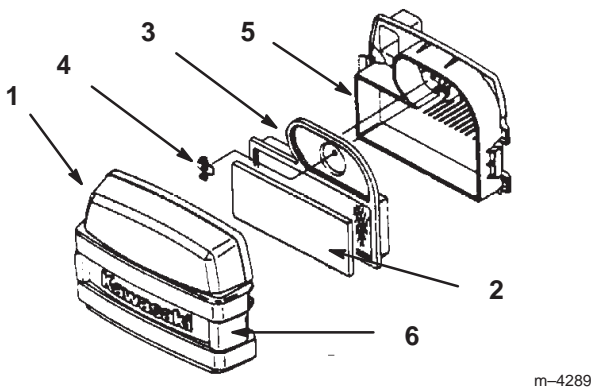

Figure 33
2. Clean around the air cleaner to prevent dirt from getting into the engine and causing damage. Unlatch two side latches and remove the air cleaner cover (Fig. 33).
3. Carefully remove the foam element from the paper element (Fig. 33).
4. Unscrew the wing nut and remove the paper element (Fig. 33).
1. Carefully slide the foam element into the paper air cleaner element (Fig. 33).
2. Place the air cleaner assembly onto the air cleaner base and install wing nut (Fig. 33).
3. Install the air cleaner cover and latch (Fig. 33).